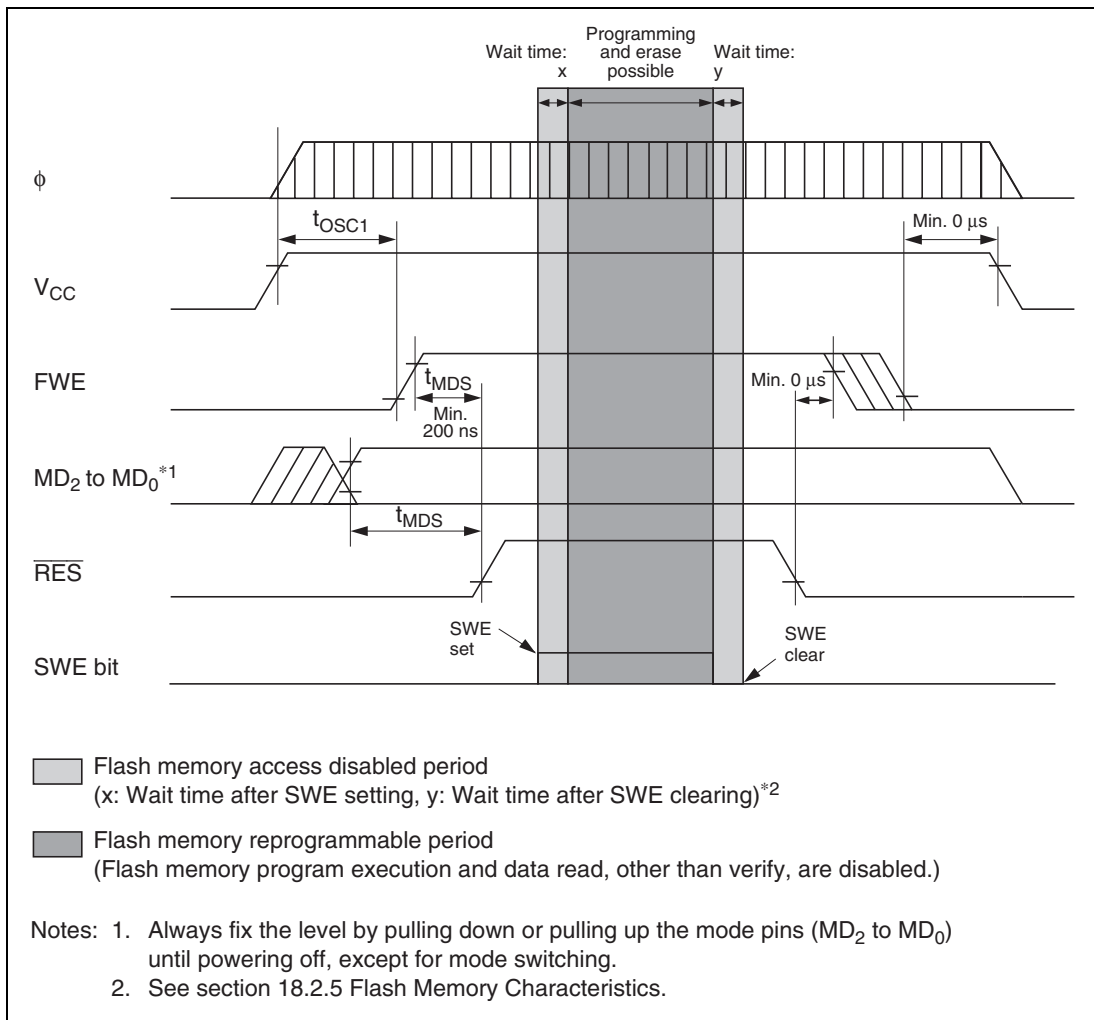

Figure 15.17 Powering On/Off Timing (Boot Mode)
2. Notes on powering on/powering off (See figures 15.17 to 15.19.)
3. Notes on FWE pin High/Low switching (See figures 15.17 to 15.19.)